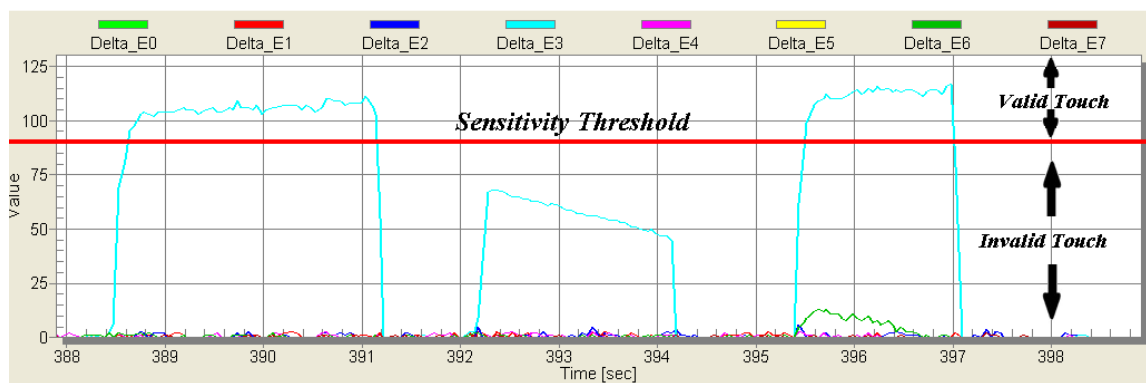

Figure 10. Sensitivity threshold
Figure 10 show the sensitivity threshold value. In this case TSS will interpret a valid touch when the delta value reaches or exceeds the sensitivity threshold (90).